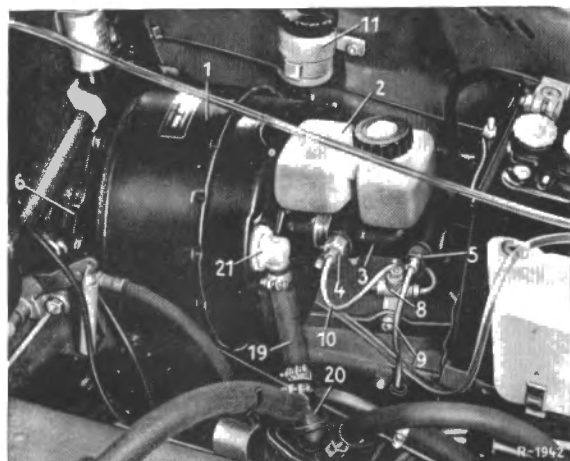

Fig. 42-16/10
the check valve (23) has been separated from the power brake and has been installed in the vacuum hose (19) (Fig. 42-16/11). The power brake itself is now only provided with a connector. Since there is no physical difference between the check valve and the connector the **vacuum check valve** has a **white housing** and the **connector** a **black housing**.
1. Detach the vacuum hose (19) for the check valve (21) (Fig. 42-16/10).